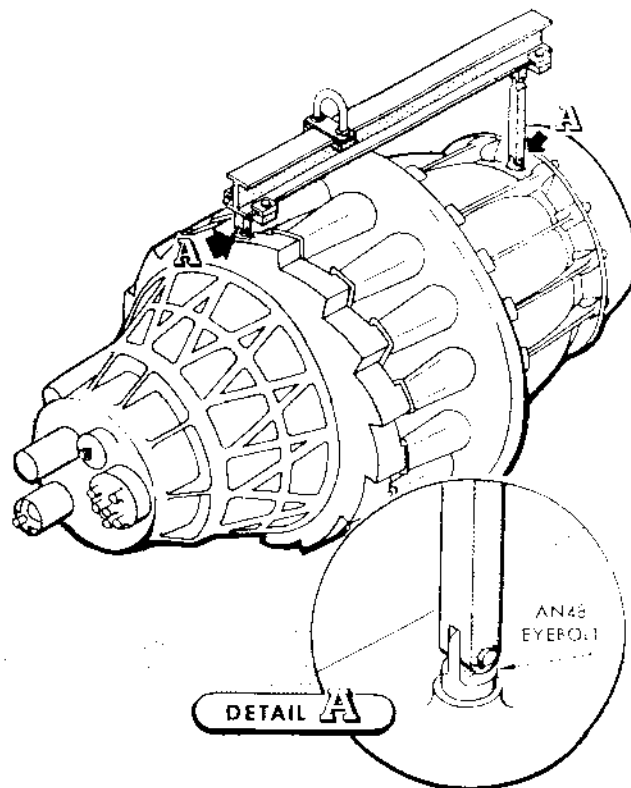

Figure 10 — Hoisting the Engine
(4) **HOISTING THE ENGINE.** (See figure 10.)—To hoist the engine, install AN48 eyebolts in the two tapped holes in top of the engine and attach the sling.